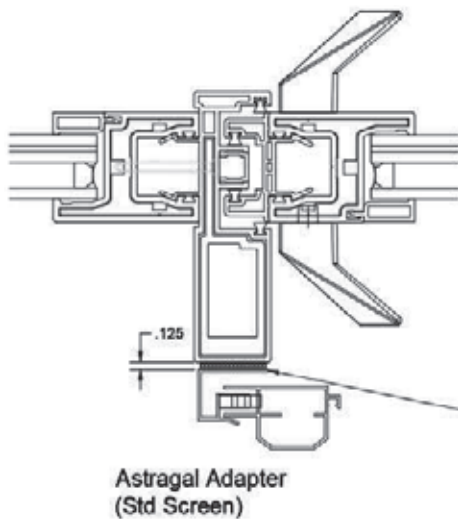
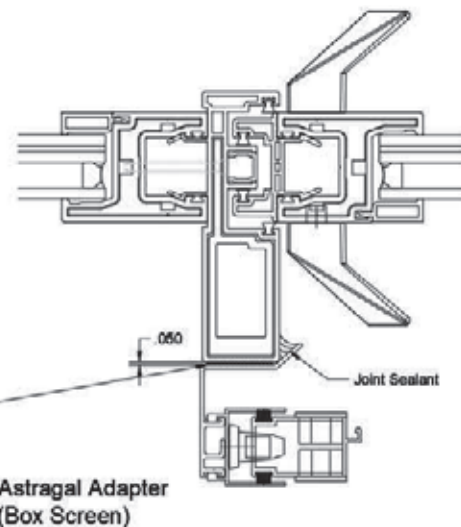

Figure 28a
Figure 28b
- 2. Pre-drill** 11/64" (0.171") pilot holes so that the astragal adapter (Item 33) attaches to the astragal as shown. Use five screws (Item 46) to install the adaptor. Alternatively, apply tape to the OXO Adapter. When installing Box Adapter (Figure 28b) be sure Screen Astragal is pre-installed on the OXO Adapter before applying to door. Joint Sealant may be applied as shown below in Figure 28b. Once installed, latch keepers may be installed and adjusted for alignment with the screen latch (Figures 28a and 28b).